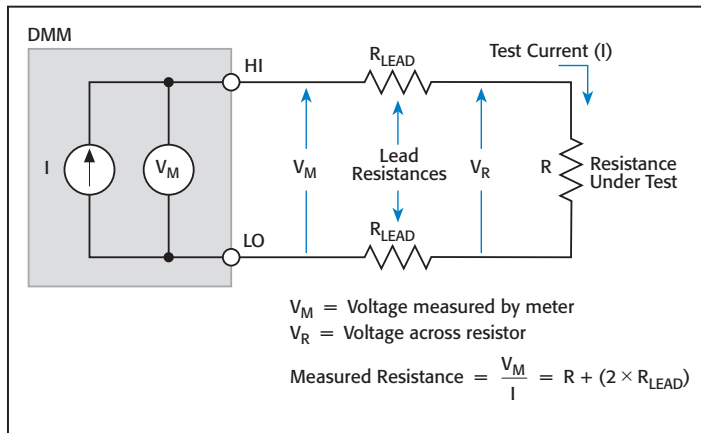

Figure 1. Setup for a typical two-wire resistance measurement.
Resistance measurements are often made using the two-wire method shown in **Figure 1**. A test current is forced through the test leads and the resistance (R) under test. The meter then measures the voltage across the resistance through the same set of test leads and computes the resistance value accordingly.